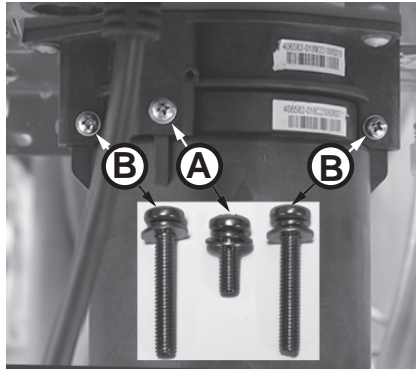

Figure 123 - Identify cartridge screws
- 6** Locate the three (3) screws securing the X3®/Bypass cartridge as shown in Figure 123. Remove the **(A)** M4-12mm screw and the two **(B)** M4-25mm screws from cartridge. Place screws aside in a safe place for reinstallation.